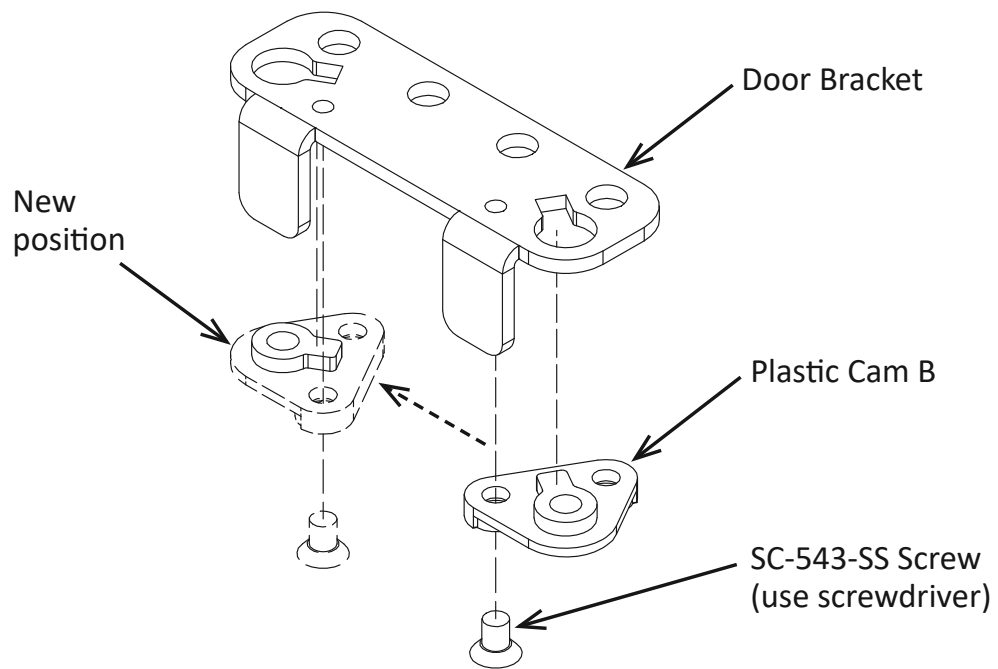

FIG. 7
Step 5. Remove the SC-543-SS screw and the Plastic Cam B from the Door Bracket, then attach them to the opposite side. See figure 7.